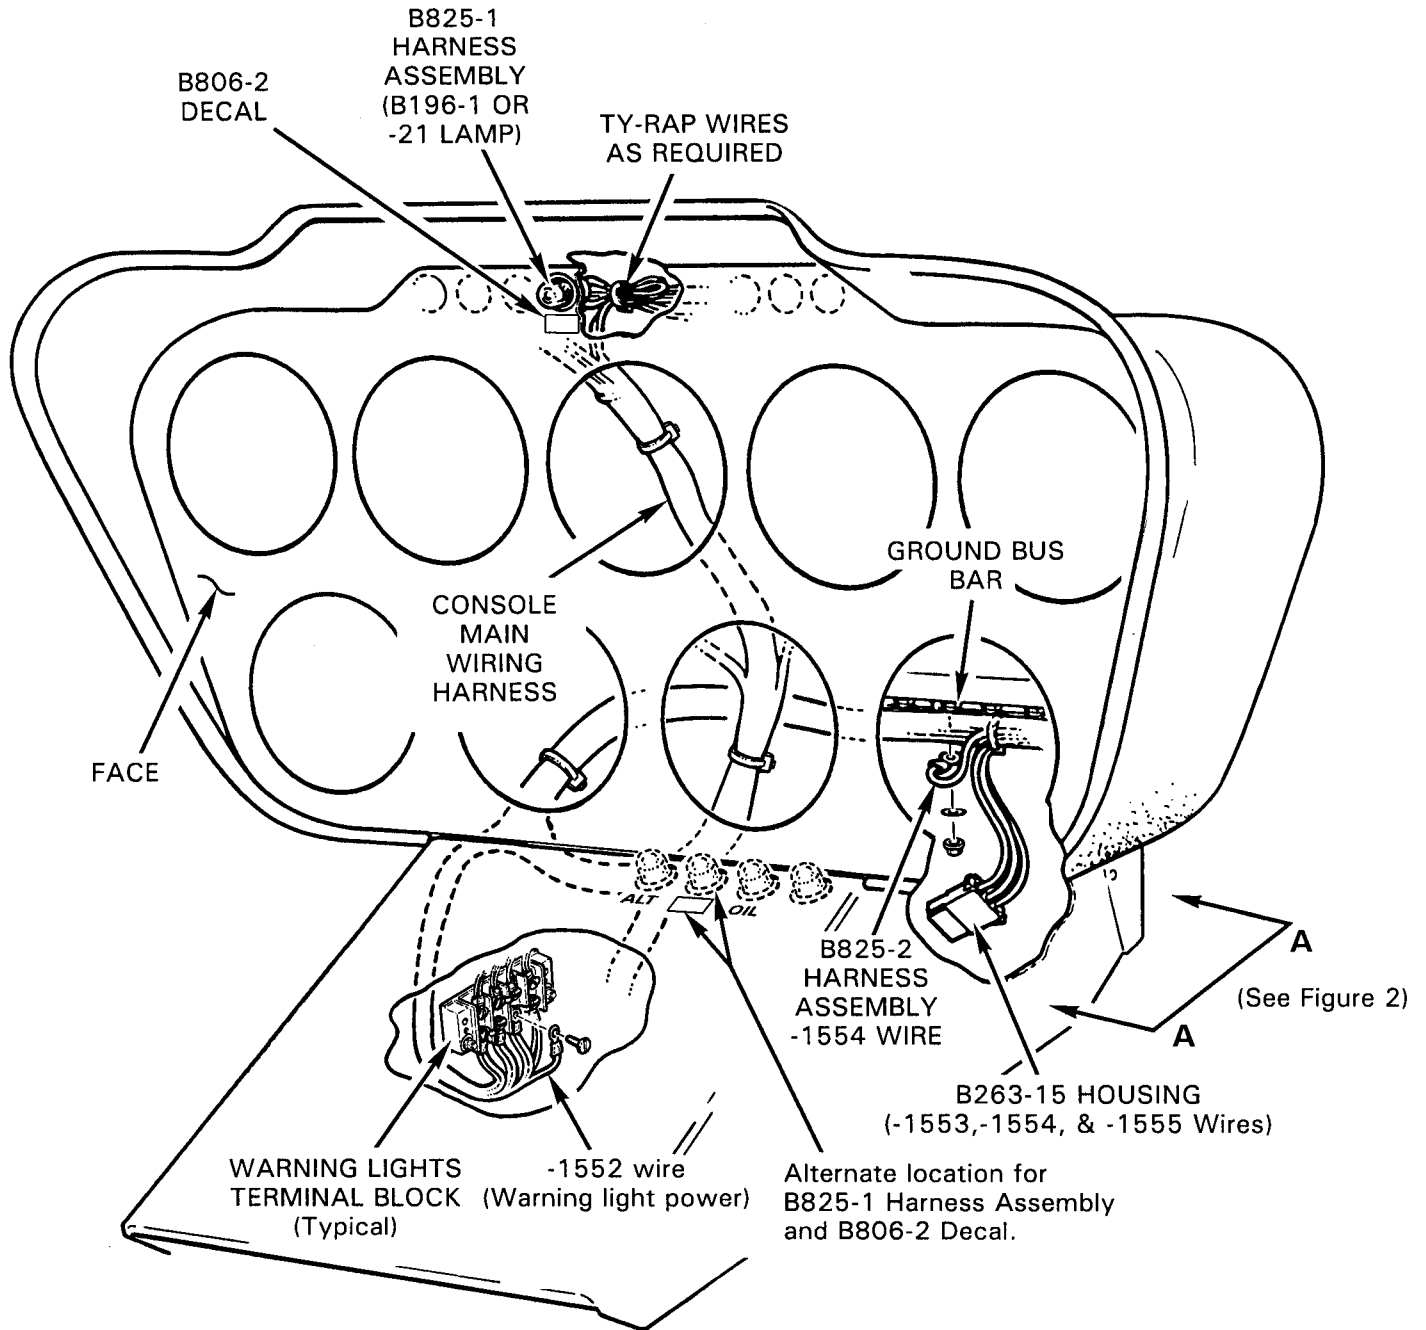

FIGURE 1
4. Refer to Figure 1. Remove black plastic plug from an unused caution light hole (fourth hole from left preferred) on instrument panel face. If there are no vacant caution light holes on face then layout, drill, and deburr one 0.469-inch diameter hole in lower panel centered between yellow ALT and red OIL lights. Install B825-1 harness assembly in hole and secure light receptacle with provided lockwasher and nut. Route -1552, -1553, and -1555 wires for twelve inches along console main harness and secure with MS3367-4-9 Ty-raps.
8. Locate and follow -44 wire from OIL warning light to either the warning lights terminal block or an A448-3 bus bar (plastic-covered copper strip Ty-rapped to wire harness on older ships). Route and connect -1552 wire's ring terminal to this terminal block (shown in Figure 1), or to bus bar, at screw with fewest terminals.
9. Reference Figure 1. Connect B825-2 harness assembly -1554 wire's ring terminal to upper console ground bus bar stud with fewest terminals.